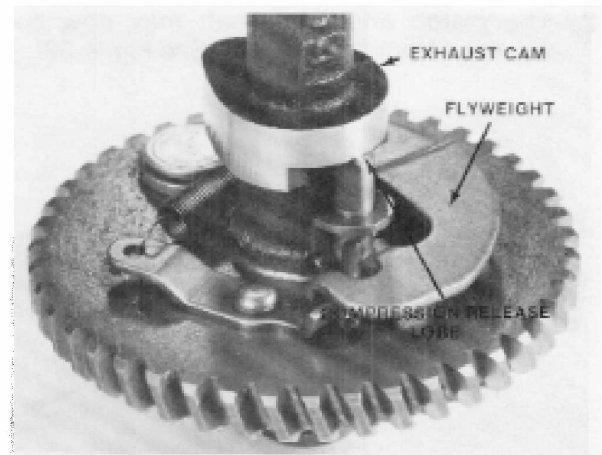

Figure 4-29
1. The compression release assembly is designed to hold the exhaust valve off its seat during start up. This is accomplished by an additional lobe on the back side of the exhaust cam that is activated by a flyweight assembly. The compression release is shown in Fig. 4-29 as it would be during cranking or starting.